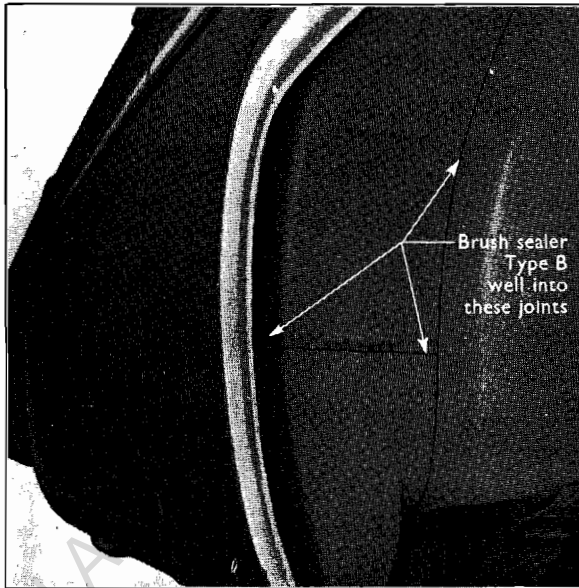

Fig. 9
**3.** If it is suspected that water is entering the well section, forward of the rear wheel housing, examine the underside of the rear wheel housing and if any breaks in the sealer film are noticed apply a liberal coating of sealer type (b) (see Fig. 9).